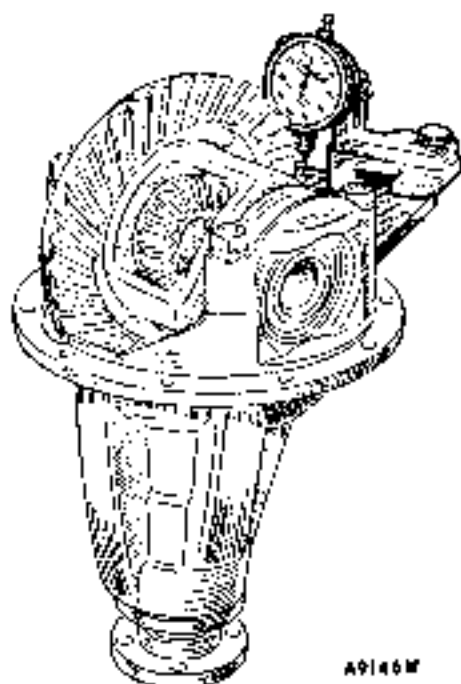

Fig. H.14
4. Fit the differential in the gear carrier. Replace the bearing caps and tighten the nuts to a torque wrench reading of 65 lb. ft. (8.99 kg. m.). Bolt the Service tool surface plate to the gear carrier flange and mount the clock gauge on the magnet bracket in such a way that an accurate backlash figure may be obtained. (See Fig. H.14.) The correct figure for the backlash to be used with any particular crown wheel and pinion is etched on the rear face of the crown wheel concerned and must be adhered to strictly.